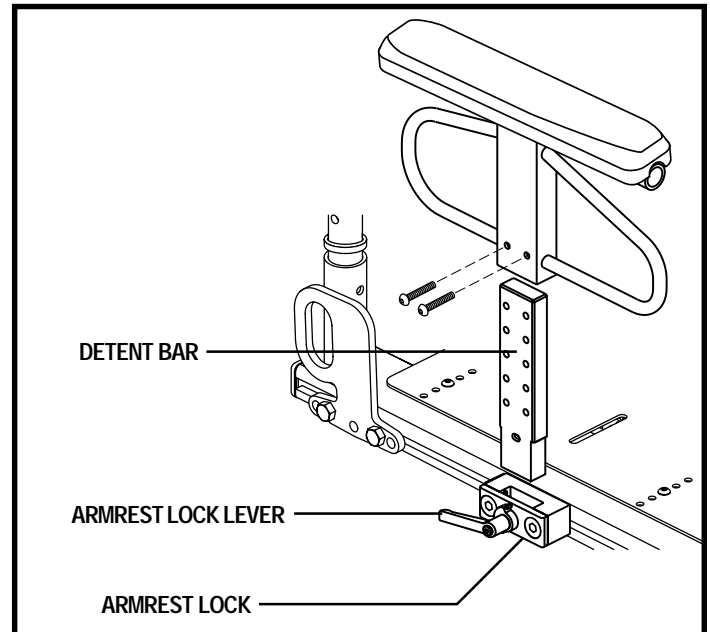

Figure 12. Armrest Height Adjustment
1. Rotate the armrest lock lever rearward and remove the armrest from the armrest lock. See figure 12.